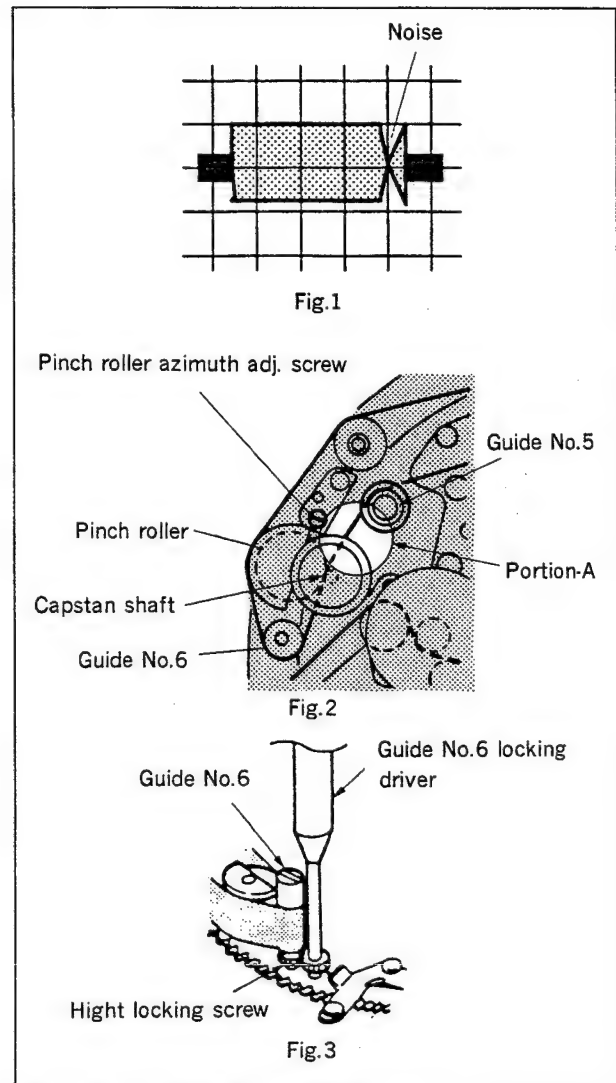

Fig. 6-6-1 Checking playback build-up
2 (1) If RF wave shape does not make flat instantaneously while maintaining horizontally flat envelope, go to the adjustment below. (Fig.6-6-1.)
If noise is seen at exit side (bottom of screen) when the unit put into the playback mode from threading completed condition. (Fig.6-6-1 (1))
(2) Check that FWD hold-back tension is not too low.
Rotate the pinch roller azimuth adjusting screw about 5 degrees in clockwise. Check the RF wave shape. Adjust it by incrementing the 5 degree clockwise rotation and check at each rotation. (Fig.6-6-1 (2))
If noise is seen at exit side (bottom of screen) when the unit put into the playback from REV mode. (Fig.6-6-1 (1))
(3) Loosen by rotating the height locking screw in counterclockwise direction, using Guide No.6 locking driver. (Fig.6-6-1 (3))
(4) Adjust height of Guide No.6 by rotating it.
Note: If Guide No.6 is raised too high, tape wrinkle occurs between capstan and Guide No.5. (Fig.6-6-1 (2) portion-A) Check there is not tape wrinkle.
If noise is seen at exit side (bottom of screen) when the unit put into the playback from FF mode. (Fig.6-6-1 (1))
(5) Check that FWD hold-back tension is not too low.
Rotate the pinch roller azimuth adjusting screw about 5 degrees in clockwise. Check the RF wave shape. Adjust it by incrementing the 5 degree clockwise rotation and check at each rotation. (Fig.6-6-1(2))